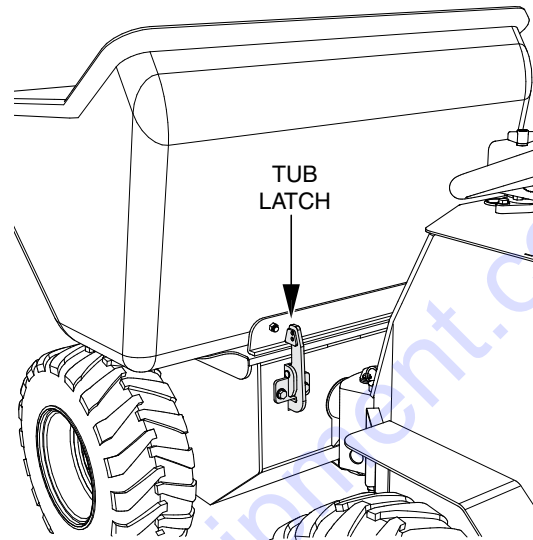

Figure 31. Tub Latch
6. Place the tub in the forward position and make sure it is secured firmly under the tub catch (Figure 31). Adjust the tub catch if necessary.